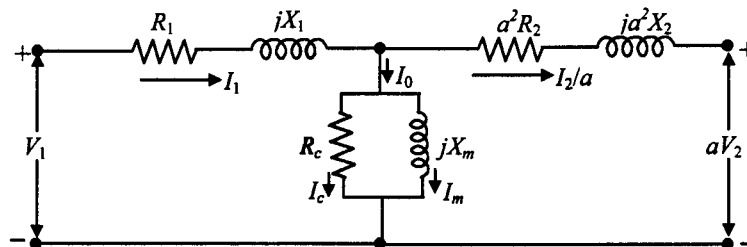

Fig. 1. Transformer equivalent circuit referred to the primary.
- 20** 1. (a) The parameters of the equivalent circuit of the 150-kVA, 2,400-V/240-V transformer shown in Fig. 1 are $R_1=0.2 \Omega$, $R_2=0.002 \Omega$, $X_1=0.45 \Omega$, $X_2=0.0045 \Omega$, $R_c=10 \text{ k}\Omega$ and $X_m=1.55 \text{ k}\Omega$. This equivalent circuit is referred to the primary. Determine the